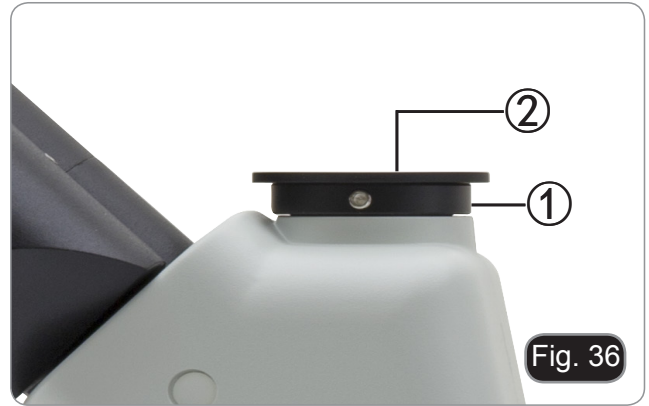

Fig. 35
4. Rotate the knurled ring of the analyzer ① and, looking into the eyepiece, reach the darkest position available. (Fig. 35)